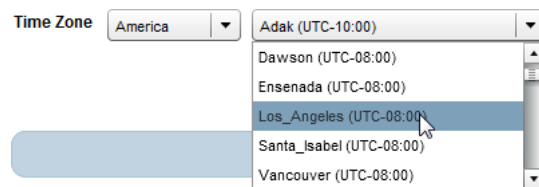

FIG. 190 Location Properties dialog (Settings tab) - Time Zone menus
- Use the *Time Zone* drop-down menus to select a Time Zone for this location (FIG. 190).